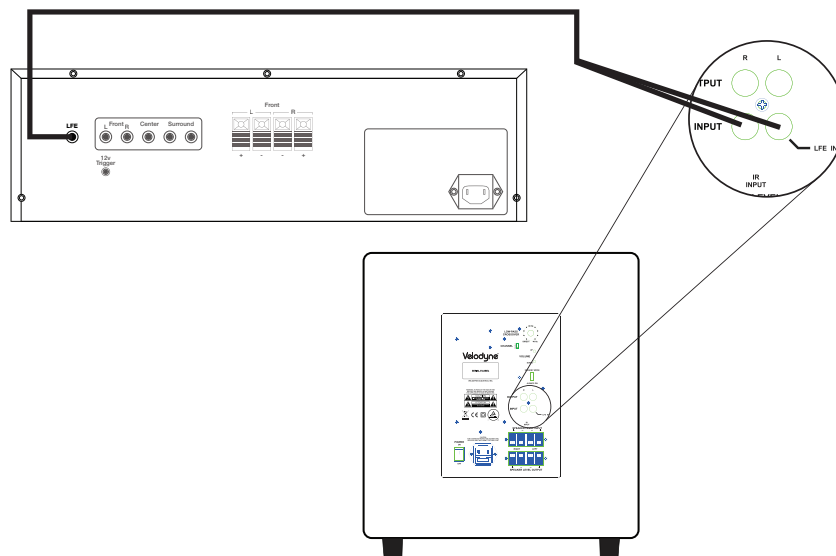

Figure 10: Line-Level Subwoofer Connection
- When using line-level jacks, use both the Left and Right inputs as shown in Figure 10—never use just the Left or Right input. If using line-level connections from a preamp or signal processor, use both Left and Right inputs from your preprocessor or preamp and connect them to the Left and Right inputs on your subwoofer.